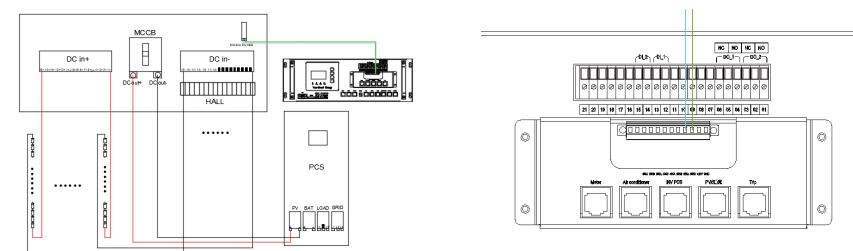

Figure 4-20 Connect the power line of the PV, With Combiner box
The PV connection is shown in Figure 4-20.
- C. Connect the power line of the PV Combiner box to the bronze medal of the DC Cabinet, as shown in Figure 4-20.
- D. Connect the RS485 communication line of the PV combiner box to the RS485 interface of the TOP BMU, as shown in Figure 4-20.
- F. Connect the RS485 communication line between the two PV combiner boxes, as shown in Figure 4-20.